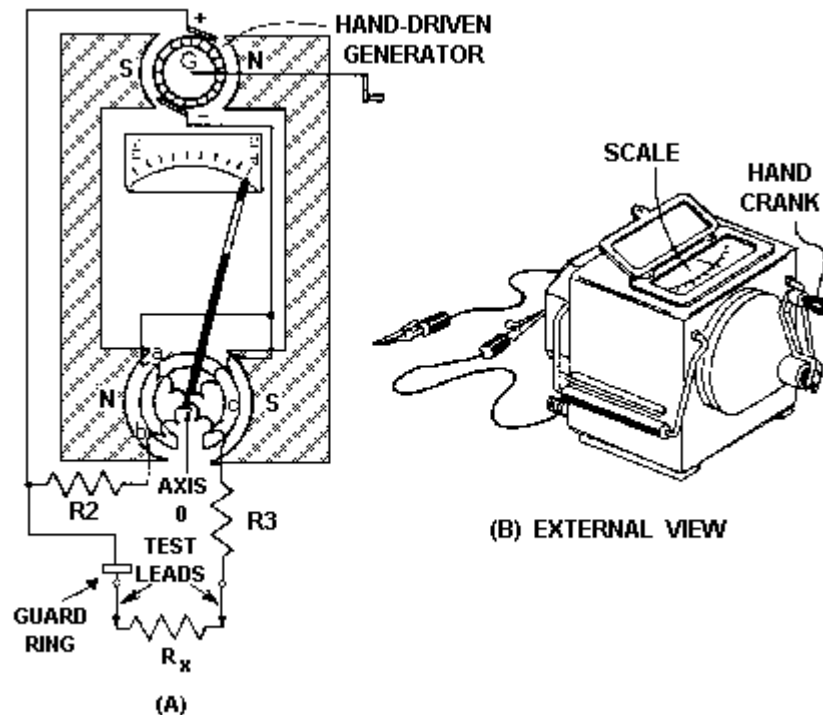

Figure 3-15.—Megger internal circuit and external view.
An ordinary ohmmeter cannot be used for measuring multimillion ohm values of resistances, such as those in conductor insulation. To test for such insulation breakdown, you need to use a much higher potential than that supplied by the battery of an ohmmeter. This potential is placed between the conductor and the outside of the insulation. A megger (megohmmeter) is used for these tests. The megger, shown in figure 3-15, is a portable instrument consisting of two main elements: (1) a hand-driven dc generator, which supplies the necessary voltage for making the measurement, and (2) the instrument portion, which indicates the value of the resistance you are measuring. The instrument portion is of the opposed-coil type, as shown in view A. Coils **a** and **b** are mounted on movable member **c**. A fixed angular relationship exists between coils, and they are free to turn as a unit in a magnetic field. Coil **b** tends to move the pointer counterclockwise, and coil **a** tends to move it clockwise.
The guard ring, shown in view A of figure 3-15, shunts any leakage currents to the negative side of the generator. This prevents such current from flowing through coil **a** and affecting the meter reading.
If the test leads are open, no current will flow in coil **a**. However, current will flow internally through coil **b** and deflect the pointer to infinity. This reading indicates a resistance too large to measure. When a resistance, such as  $R_x$ , is connected between the test leads, current also flows in coil **a**; the pointer tends to move clockwise. At the same time, coil **b** still tends to move the pointer counterclockwise. Therefore, the moving element, composed of both coils and the pointer, comes to rest at a position in which the two forces are balanced. This position depends upon the value of  $R_x$ , which controls the amount of the current in coil **a**. Because changes in voltage affect both coils in the same proportion, the position of the moving element is independent of the voltage. If you short the test leads together, the pointer will come to rest at zero because the current in coil **a** is relatively large. Since  $R_3$  limits the current, the instrument will not be damaged under these circumstances. The external appearance of one type of megger is shown in view B of figure 3-15.